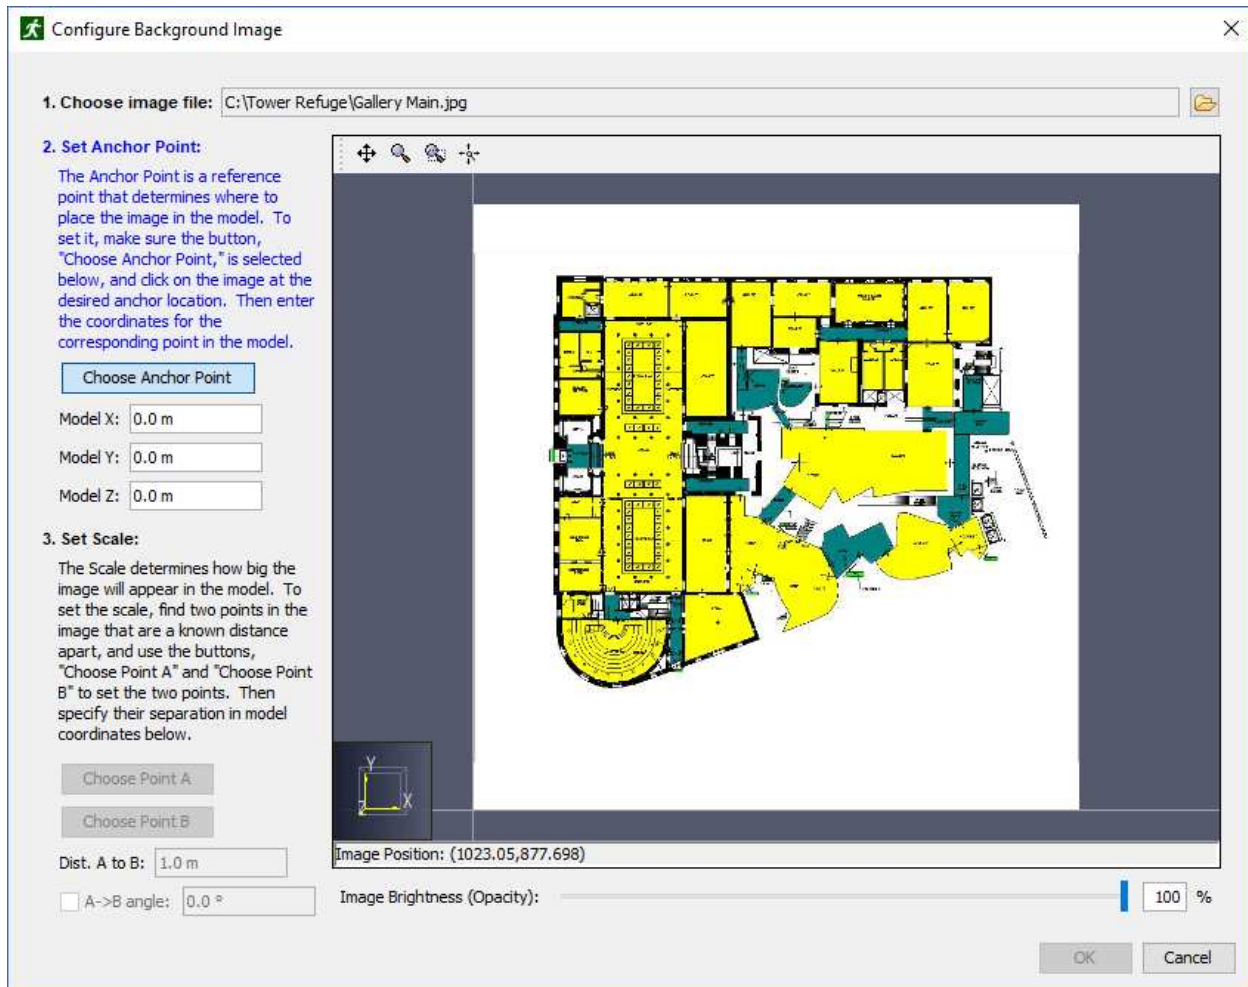

Figure 79. Set the anchor point
1. When clicked, a dialog will appear prompting for an image file. The following image formats are currently supported: BMP, GIF, JPG, PNG, and TGA. After a file is selected, a new dialog will appear as shown in Figure 79. This dialog allows properties of the image to be specified so that the proper scaling, rotation, and offset can be applied.